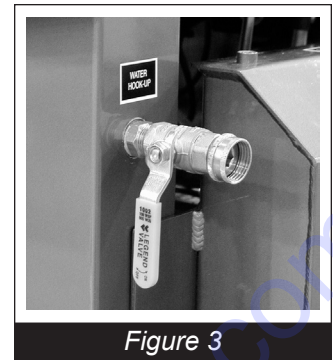

Figure 3
- For wet cutting, attach supply hose to Water Hook Up Valve (*Figure 3*).
- Open water valve then turn the Blade Saver to WET. (Review Figures 3 & 4)